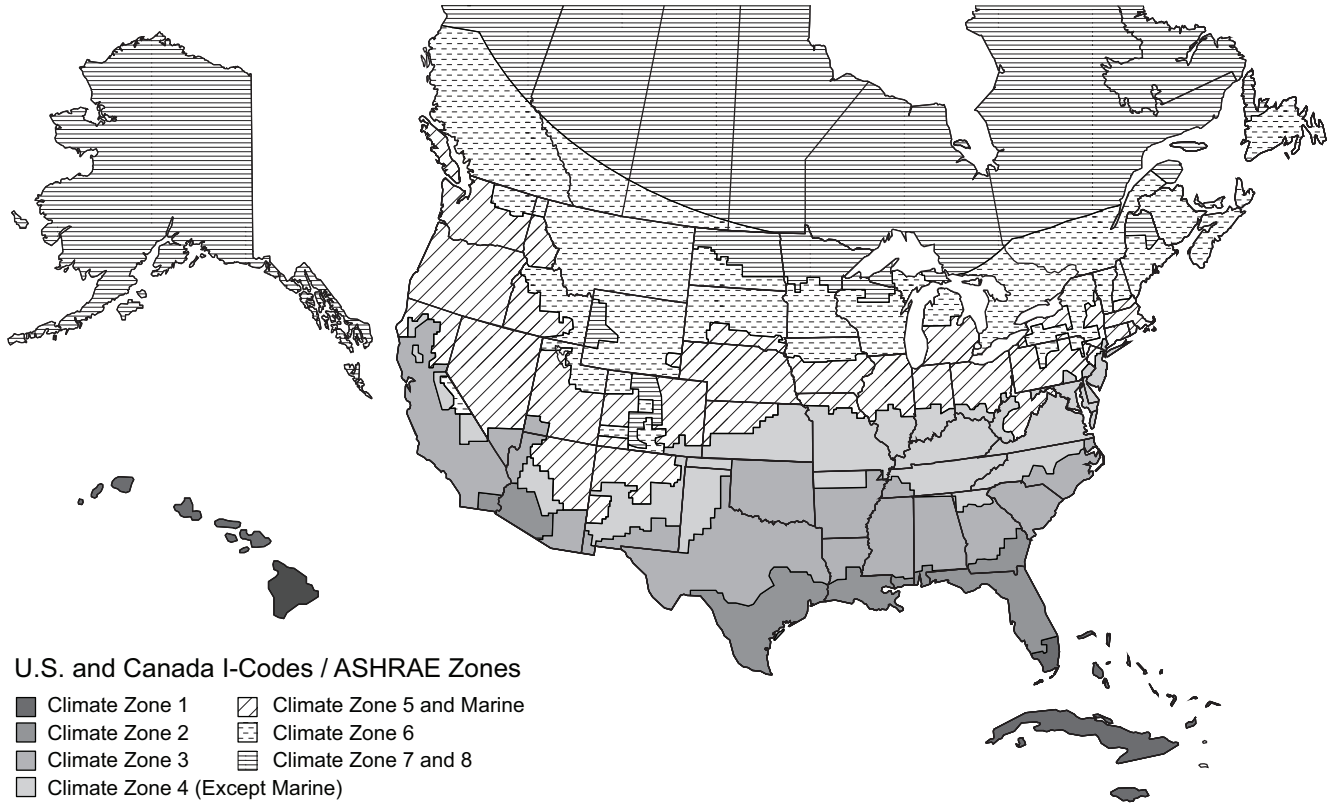

Fig. 73 — U.S. and Canada Climate Zones
- a. See Fig. 73 for map of U.S. and Canada climate zones.